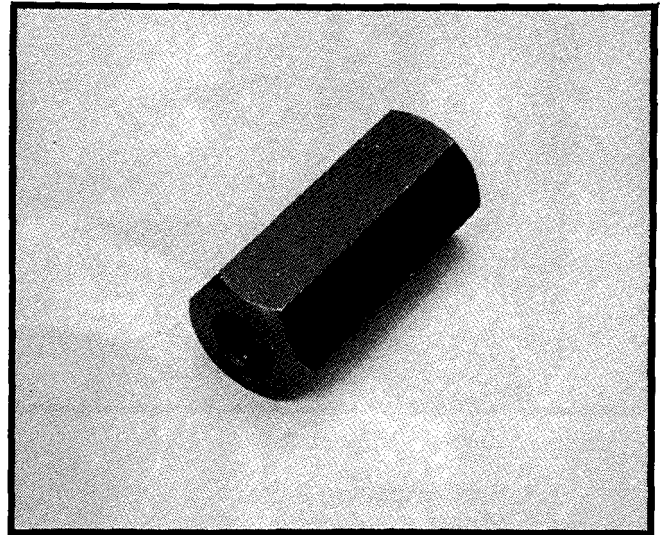

Figure 1.
2. Remove the cotter pin, axle nut and washer. Install a knockoff part number 809315. Hit the knockoff with a sharp blow with a heave hammer to loosen the hub from the axle. See Figure 1.